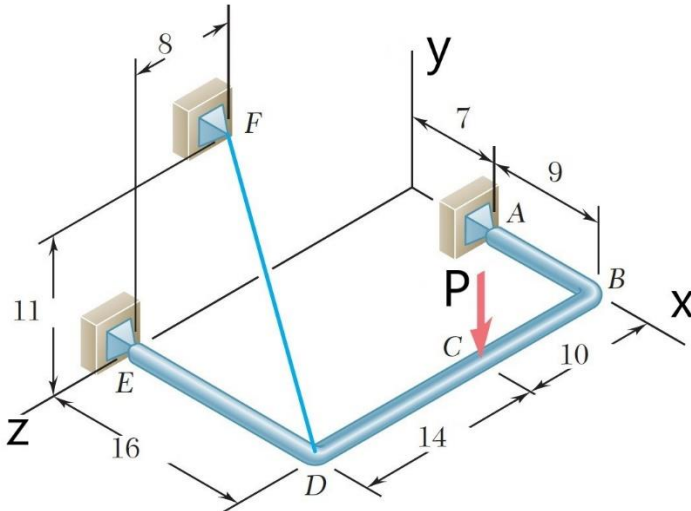

Figure 1
1. The bent rod ABDE shown in Fig. 1 is supported by ball-and-socket joints at A and E and by the cable DF. Force  $P=100\text{N}$  is applied at C. The length unit for the dimensions shown in the figure is dm. Determine: (a) the moment of force  $P$  about point E in the vector form, (b) the magnitude of the moment of force  $P$  about line AE. (15')